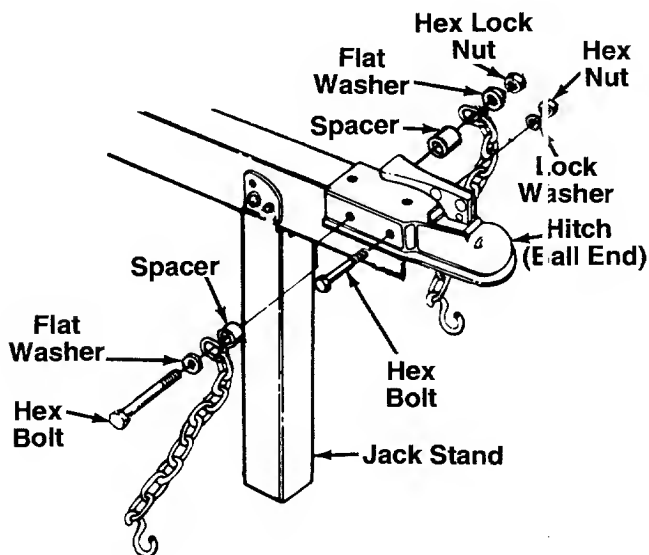

FIGURE 5.
2. Place the hitch in position on the end of the tongue as shown in figure 5. Using hole closest to the jack stand, insert the hex bolt (with hardware attached) through hitch and tongue. Pivot the first chain link on the hex bolt so it faces the ball end of hitch.